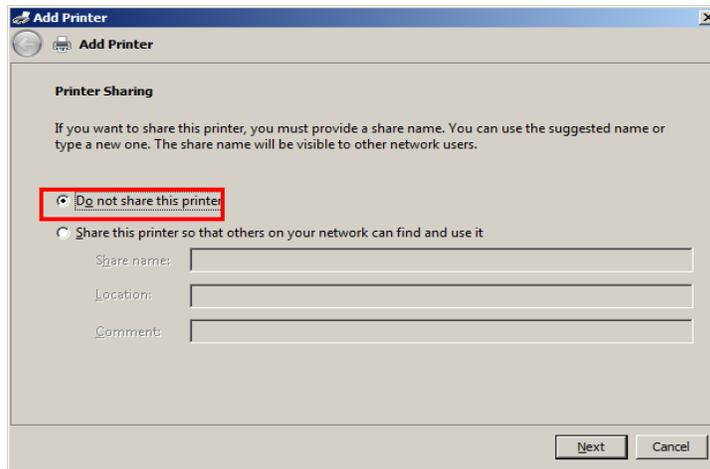

Figure 10-26 -- Set for no Share
12) You may see a window that asks if you would like to share the printer. Do not share the printer! and select **Next**. See Figure 10-26.